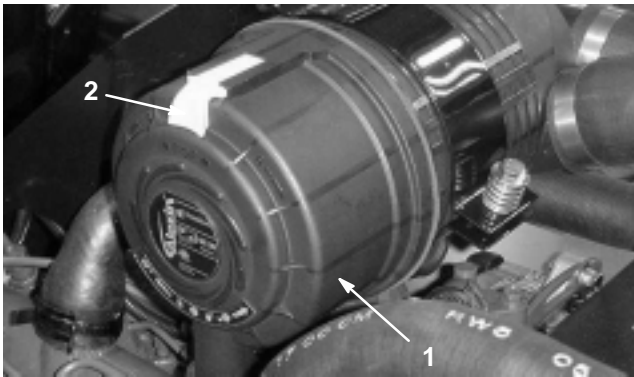

Figure 42
1. Release the latches securing the air cleaner cover to the air cleaner body (Fig. 42). Separate the cover from the body. Clean the inside of the air cleaner cover.